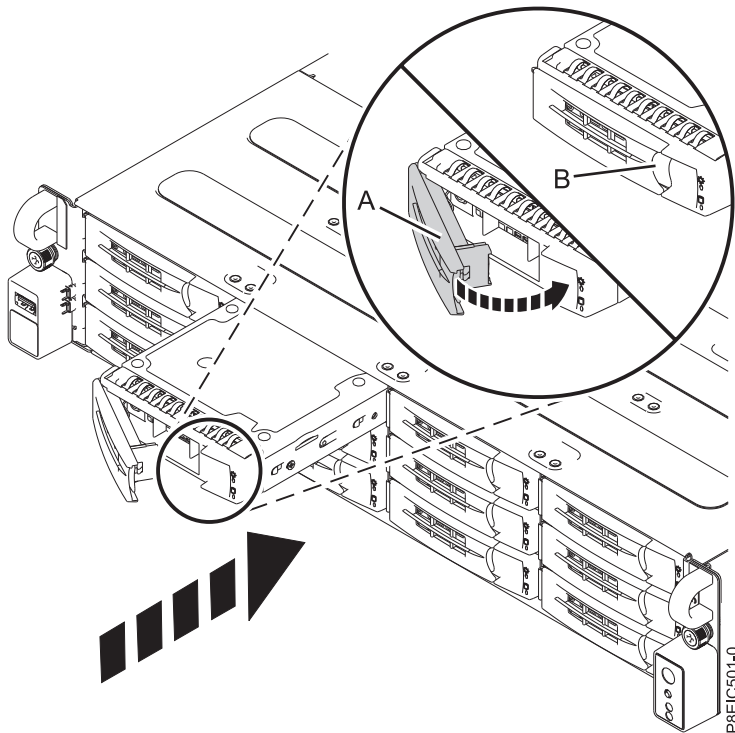

Figure 61. Locking the drive tray handle
3. Hold the drive tray by the bottom as you position the drive tray. Slide the drive tray all the way into the system. Push the drive tray in until the drive tray handle (A) starts to close, then push the handle in until it locks, as shown in Figure 61.